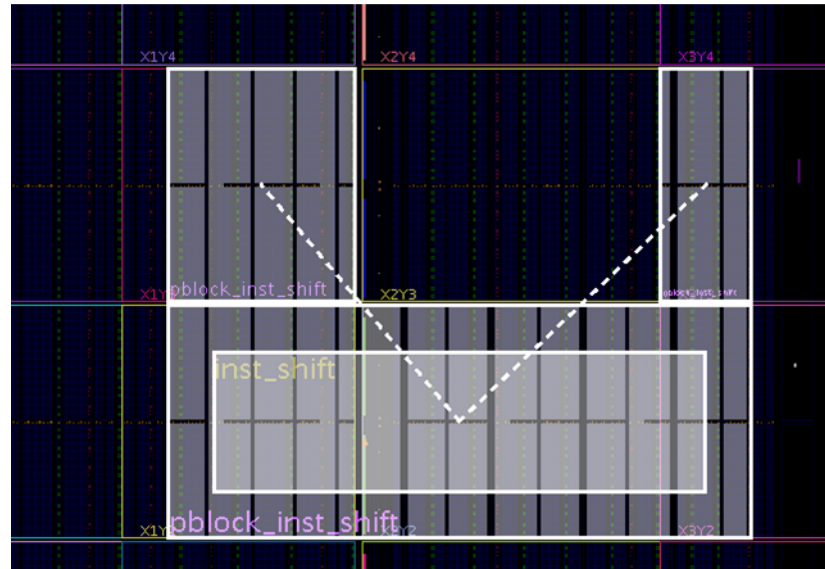

Figure 7-5: **Unsupported Pblock with clock\_region Gap**
4. Do not create U or H shaped Pblocks with large gaps that span an entire clock\_region, as shown in Figure 7-5 below.